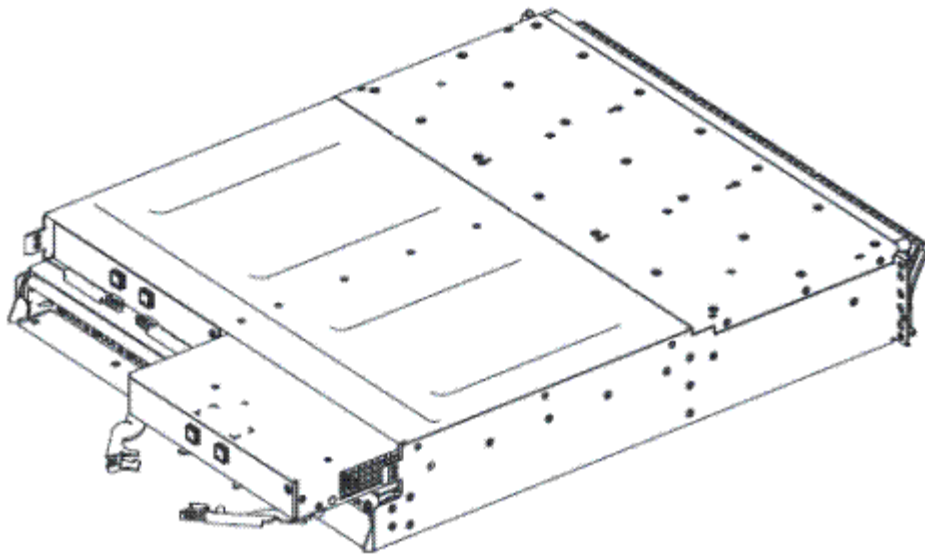

Figure 130. Removing and replacing the IBM Storage FlashSystem expansion canister
6. Open the two release levers as shown in Figure 130 on page 167.